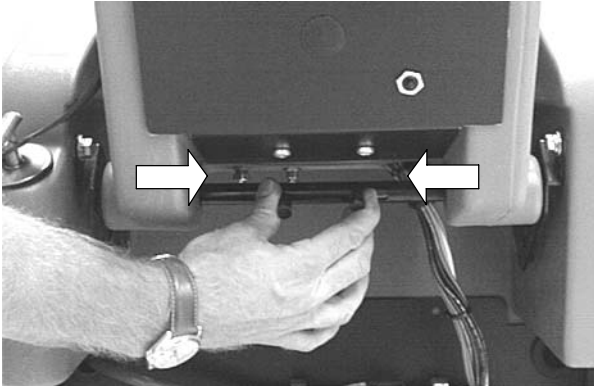

FIG. 11
2. Squeeze levers together and lift or lower control grips to a comfortable operating height (Figure 11).